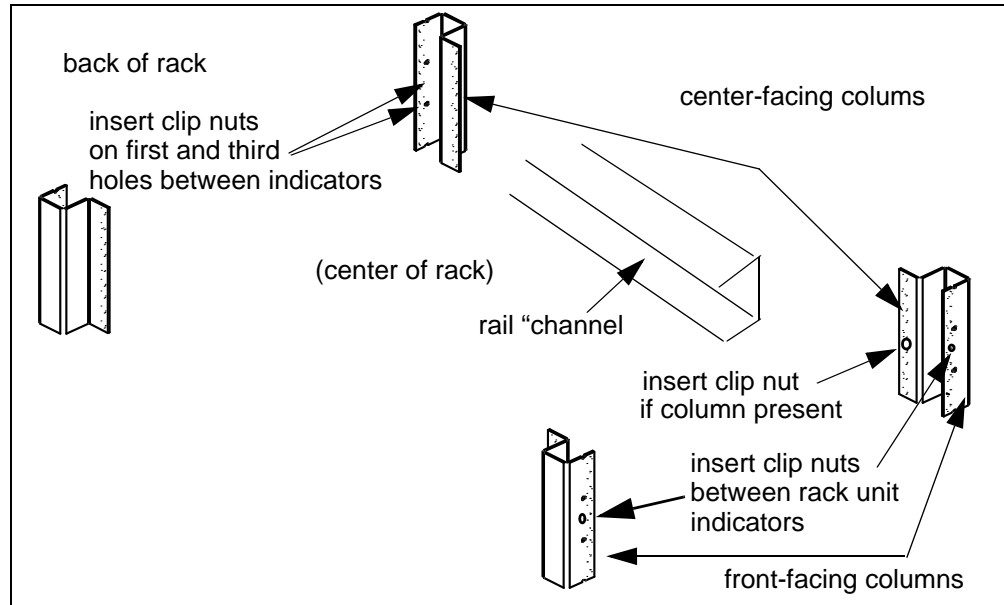

Figure 1-3. Rack Column and Shelf Rail Orientation.
1. Select the vertical position in the rack between any two adjacent EIA unit indicators where the L4400 instrument is to be installed. Insert clip-on nuts (item 5) on the three holes between the unit indicators. Place nuts on both the left and right front-facing columns (Figure 1-3).
If center-facing columns with holes are present on the frame, insert a clip-on nut on the hole perpendicular to the center hole on the front-facing column. See Figure 1-3.
If the rack has center-facing columns (Figure 1-3), insert a 10-32 pan head screw through the rail opening and clip nut (perpendicular to the front-facing column). Repeat for the rail on the opposite column.